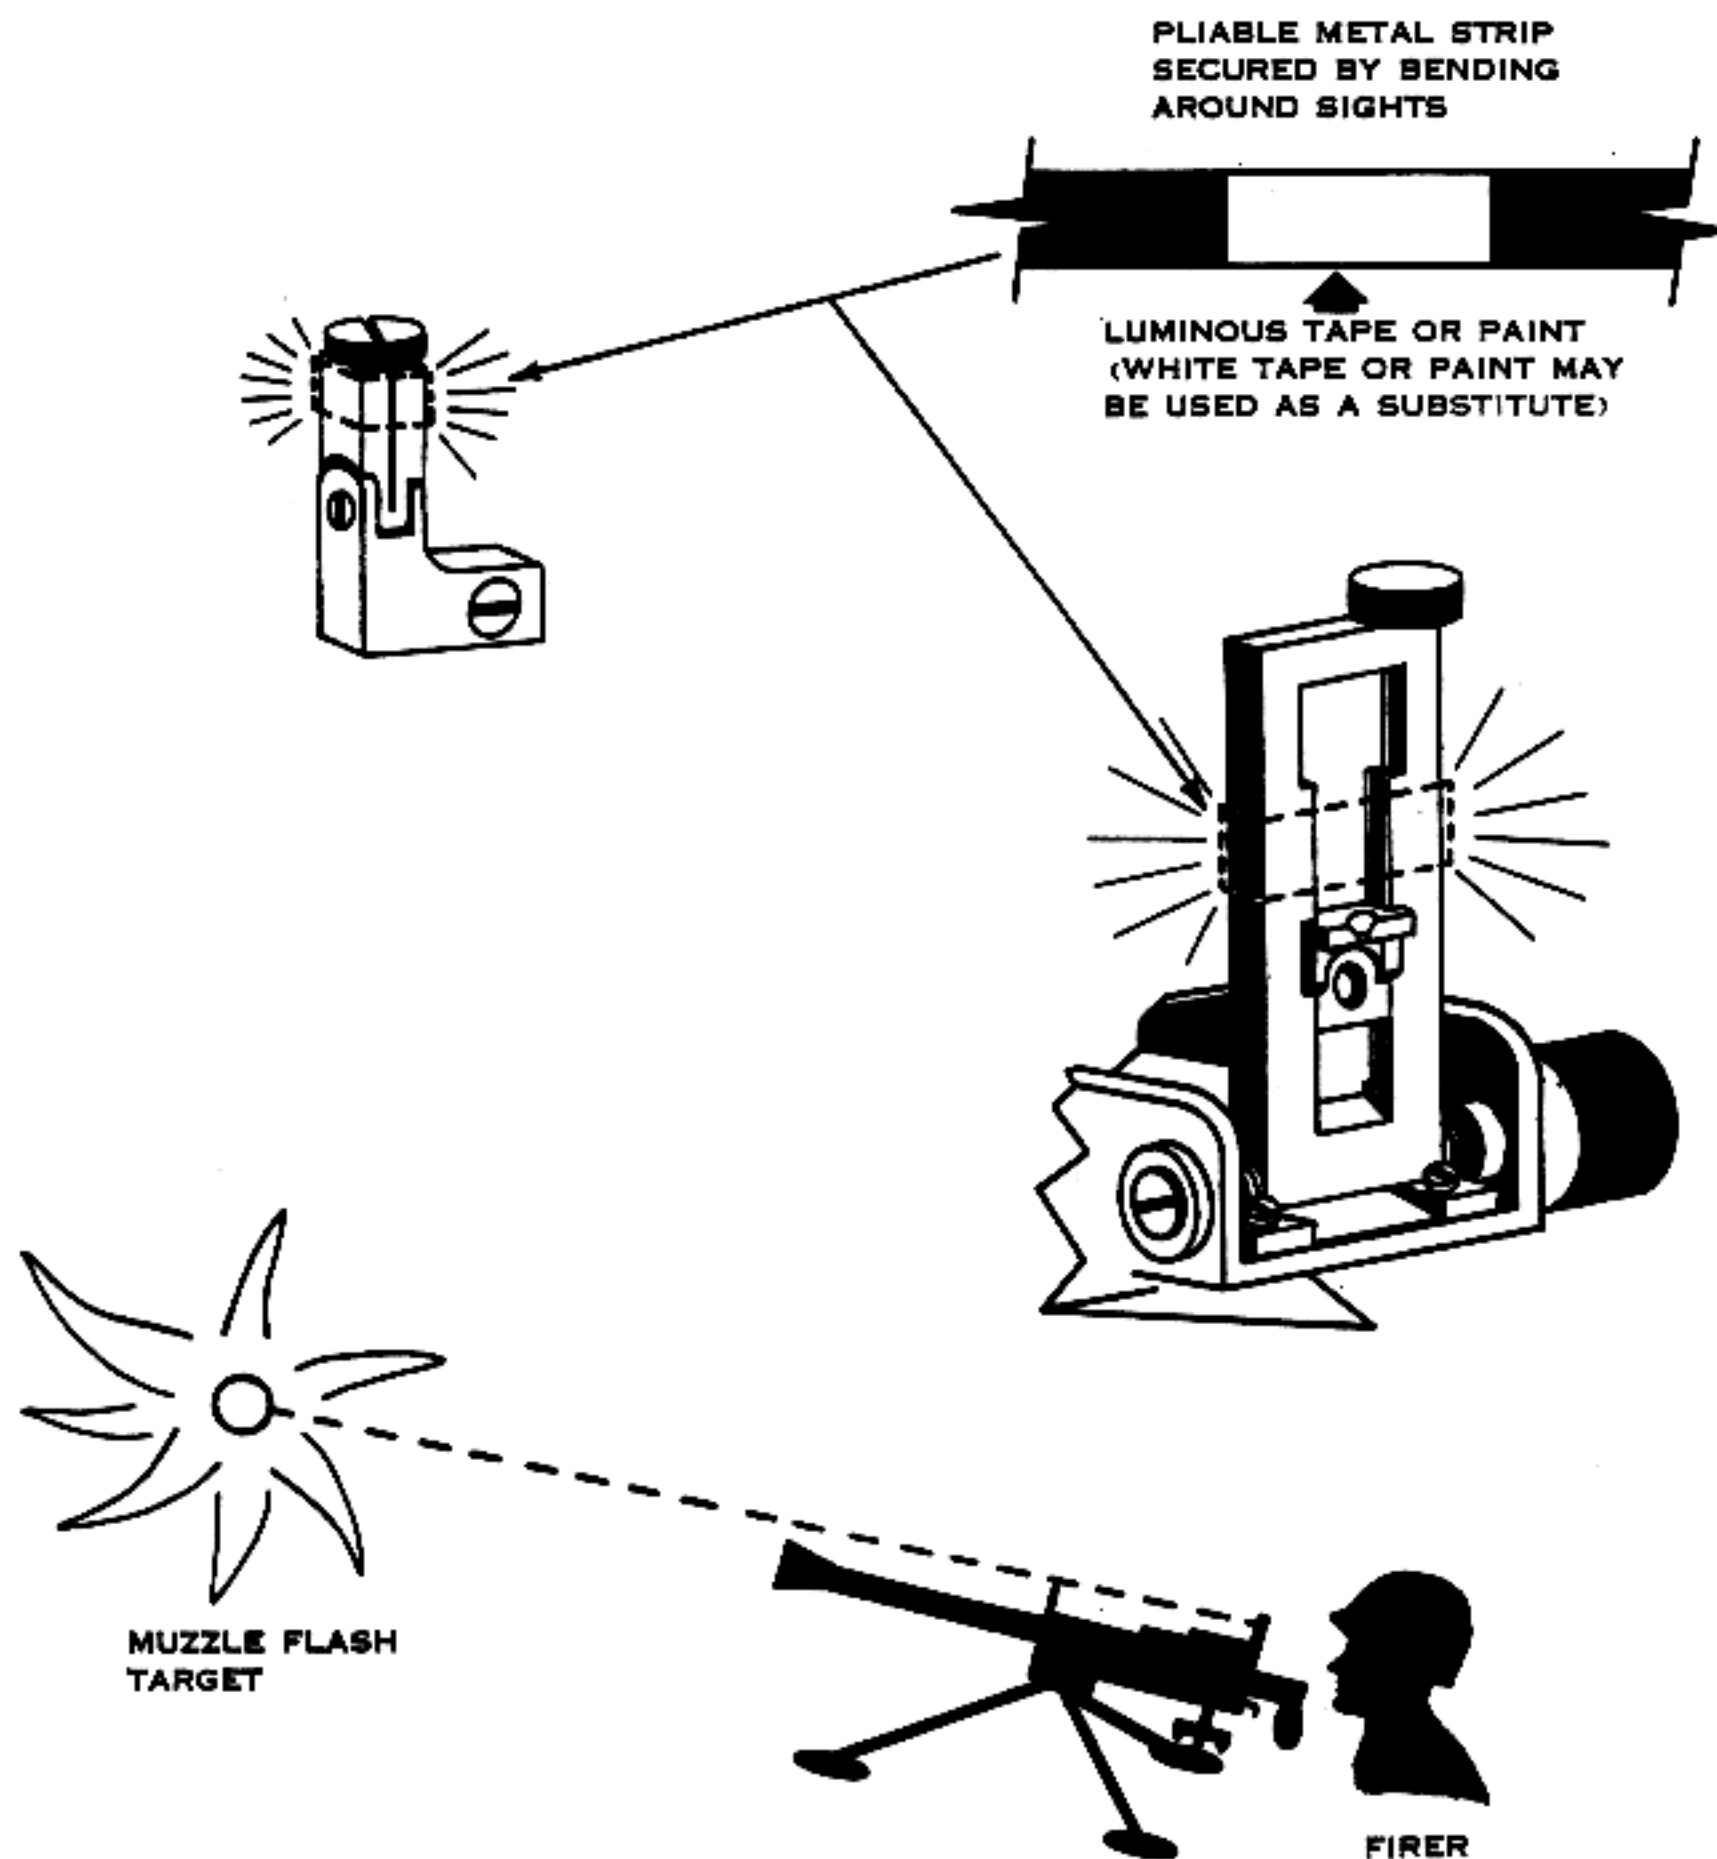

Figure 87. Field expedient night sight and sight picture for the machinegun, 1919A6.
a. Field expedients which aid in aligning sights to engage targets represented by muzzle flashes are shown in figure 87.